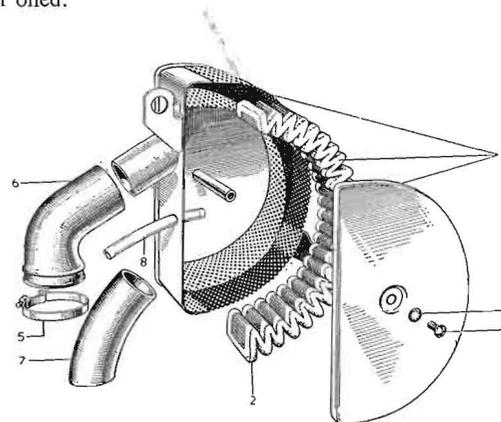

Fig. 8. "D"-shaped type air filter ("wet" element)
Removing the Filter from Carburettor. On earlier Triumphs not of the unit-construction type and having the "D"-shaped type filter shown in Fig. 8, servicing the filter, except on some models (e.g. models 6T and T110), necessitates the removal of the oil tank after draining it, disconnecting the oil pipes, and removing the three tank securing bolts. After disconnecting the rubber sleeve shown at (6) and (7) in Fig. 8 the air filter can then be removed. Where oil tank removal on earlier models with separate gearboxes is not necessary the filter assembly can be easily removed after detaching the rear panels or (on many later models) the battery and battery carrier. In the latter case the filter can be lifted clear of the bottom spigot after removing its top bolt.
Dismantling and Assembling the Filter. If it is of the "D" type shown in Fig. 8, unscrew the cover screw (3), remove the cover and then extract the filter element. Should it be of the "O" type shown in Fig. 10, remove the screwed clip securing the outer perforated case, next the back plate, then the filter element, and afterwards slide the front plate from over the carburettor adaptor.